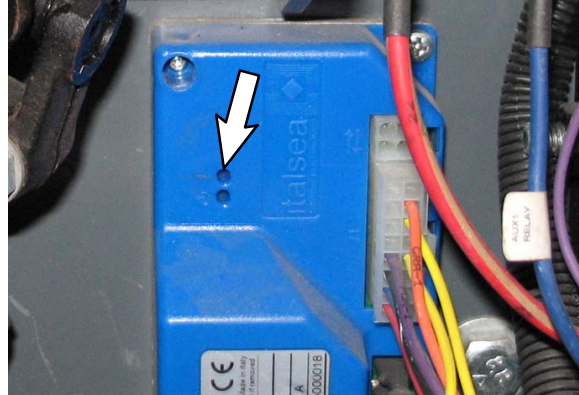

FIG. 7
9. **Calibration:** Turn OFF all machine functions and options. All functions / options (spray nozzle, lights, etc...) must be OFF when the power steering motor (1) is calibrated. The power steering motor will not calibrate if functions / options are on.
10. **Calibration:** Quickly squeeze / activate the switch (3) lever four times within 3 seconds. The power steering controller (1) LED will illuminate each time the snap switch lever is squeezed. The LED will remain illuminated for 2 seconds the fourth time the snap switch lever is squeezed to show the sequence is completed. (Fig. 7)